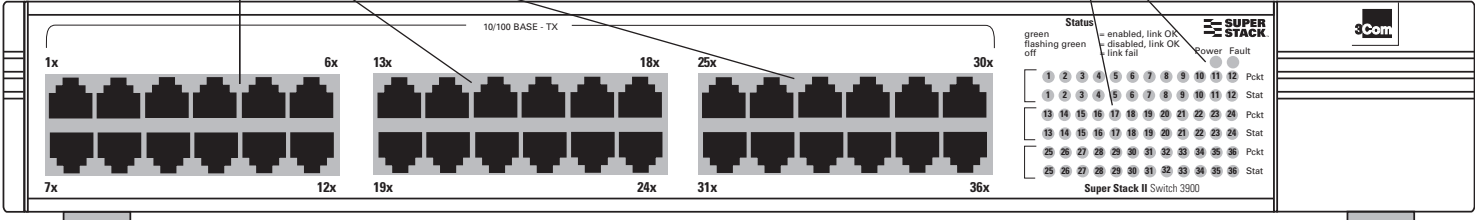

Figure 1-2 Front Panel of the 36-Port SuperStack II Switch 3900
- **3C39036** — The 36-port 10/100BASE-TX switch, with up to three Gigabit Ethernet links. See Figure 1-2.